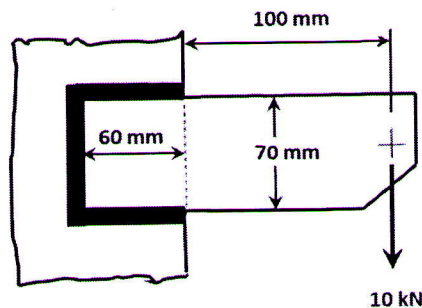

Fig. 2
- 6 Determine the size of weld required for the joint shown in Fig. 2. Take allowable stress of the weld material as  $80 \text{ N/mm}^2$ . (15)